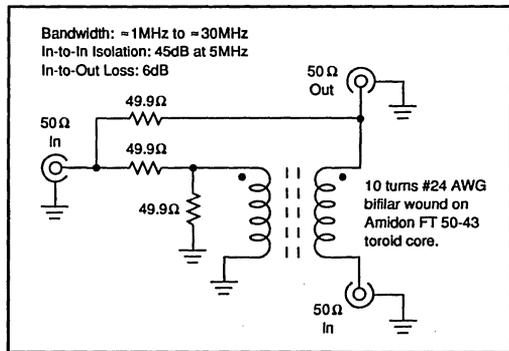

FIGURE 5. Passive Signal Combiner.
7. Two-tone testing will require high isolation between test signal generators to prevent IMD generation in the test generator output circuits. A passive (hybrid transformer) signal combiner can be used (Figure 5) over a range of about 0.1MHz to 30MHz . This combiner's port-to-port isolation will be $\approx 45\text{dB}$ between signal generators and its input-output insertion loss will be $\approx 6\text{dB}$. Distortion will be better than -85dBc for the powdered-iron core specified. Avoid ferrites.